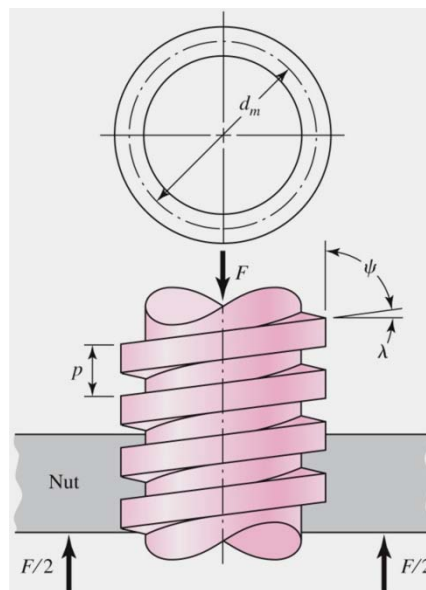

Figure 1(a)
1. (a) By referring to Figure 1(a), draw the force diagram to:-